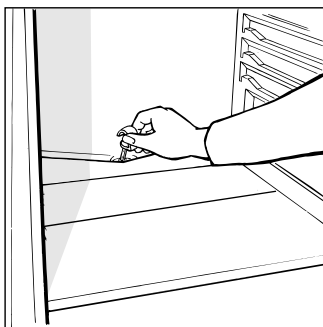

Fig. 4
This appliance defrosts automatically and the water is channeled to the back toward the drain installed for this purpose (fig. 4). Here, the heat produced by the compressor will make it evaporate. The only thing you must do is to periodically check and clean the hole of the drain, which is located behind the vegetable crispers, so that the water drains properly.
- The hole for draining the water from the frost is clogged (see fig. 4).